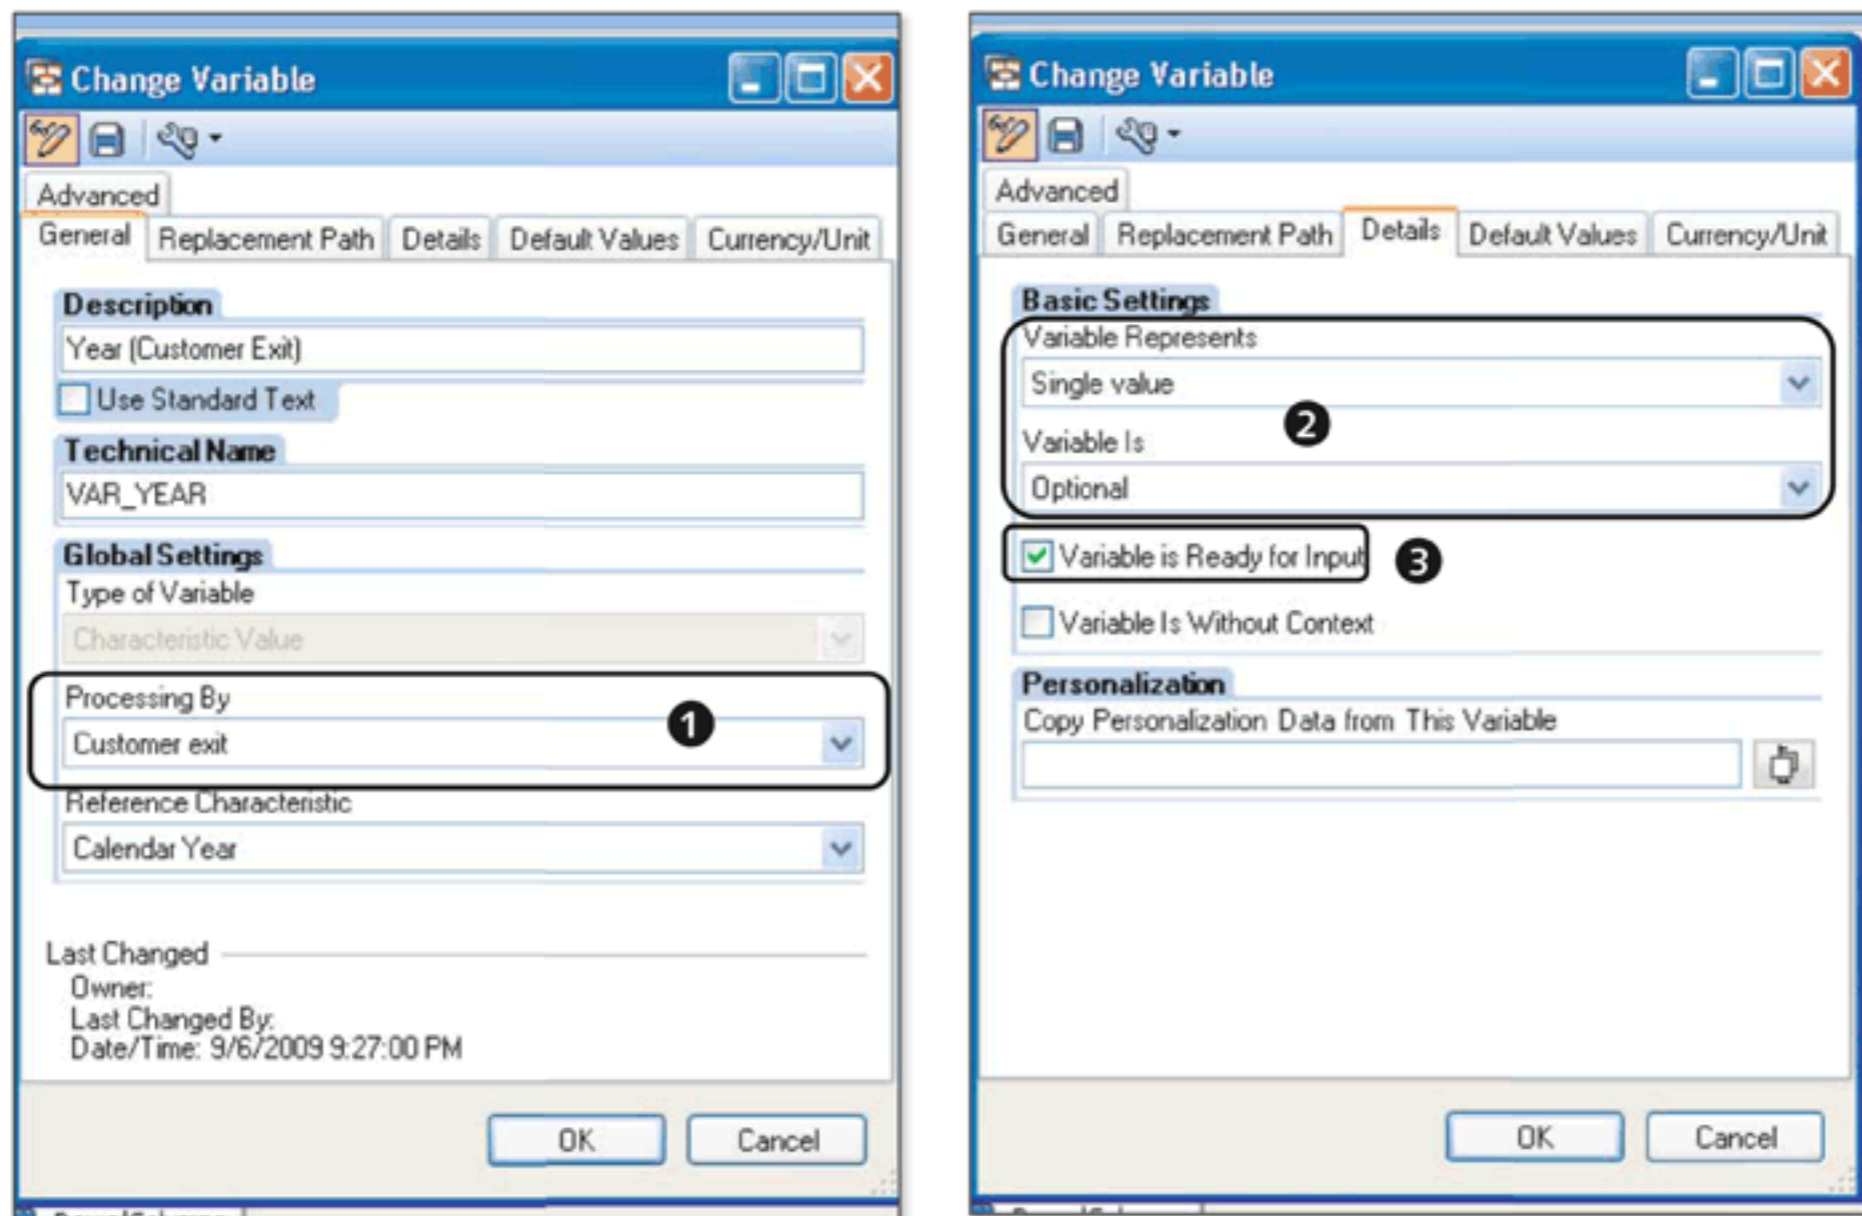

Figure 9.31 Define Variable with Customer Exit Processing Type
To address this requirement, you can create a variable based on the year characteristic with the customer exit processing type (❶ of Figure 9.31). A customer exit
Define the variable as shown in Figure 9.31. The query has to be run for one year only, so the variable should represent a single value (2). Note that, because a user wants to decide on the year value for which the query should be executed, you have to select the VARIABLE IS READY FOR INPUT checkbox (3). Finally, save the variable definition.